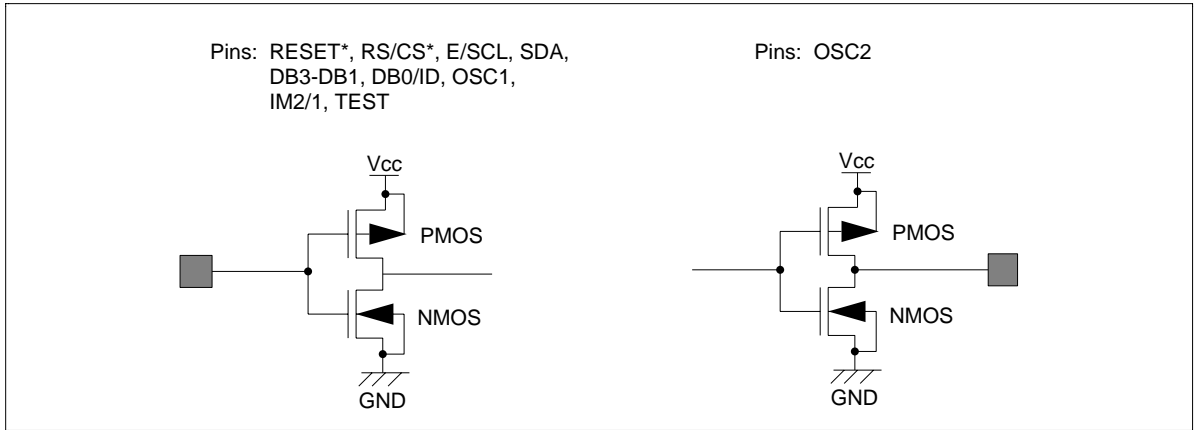

Figure 36 I/O Pin Configuration
2. The following two circuits are I/O pin configurations (figure 36).